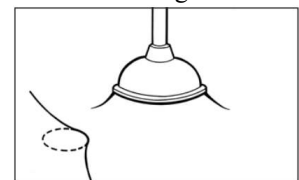

Figure 10
- To determine if a weld has been made, place the plunger next to a welded plate and create enough suction to lift the membrane. A weld will crease the membrane as shown in Figure 10. If the assembly is not welded, the membrane will lift up from the plate